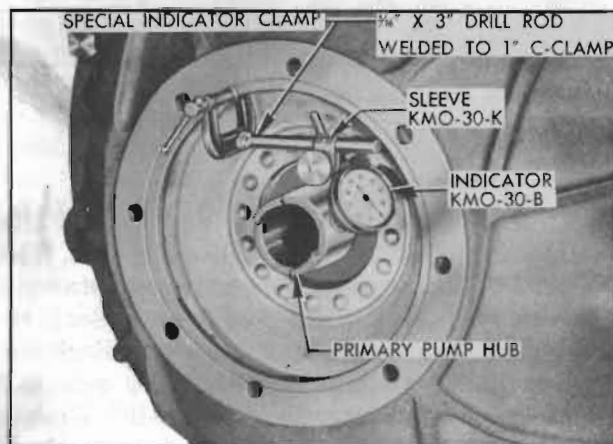

Figure 4-128—Checking Runout of Primary Pump Hub
3. Prepare a special dial indicator clamp by welding a piece of $\frac{5}{16}$ " x 3" drill rod to a 1" C-clamp. Use the special clamp and Sleeve KMO-30-K to mount Dial Indicator KMO-30-B so that indicator stem bears against the primary pump hub as shown in figure 4-128.